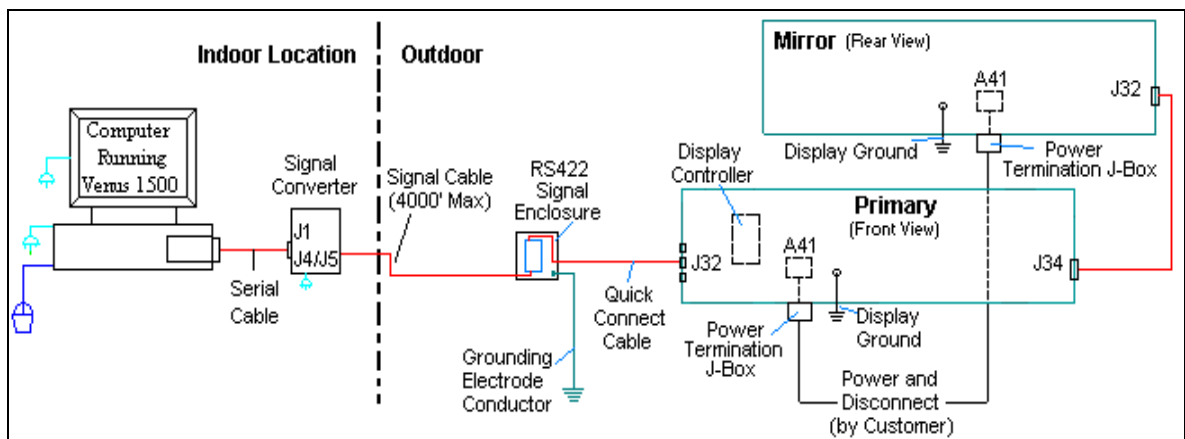

Figure 2: RS-422 Display Layout
2. From the signal converter, cable is run to the surge suppressor assembly in a weather resistant enclosure at the display, as shown in **Figure 2**. (In certain cases the display may have been ordered with the surge board mounted in the display. In those cases, the terminations will be the same.)